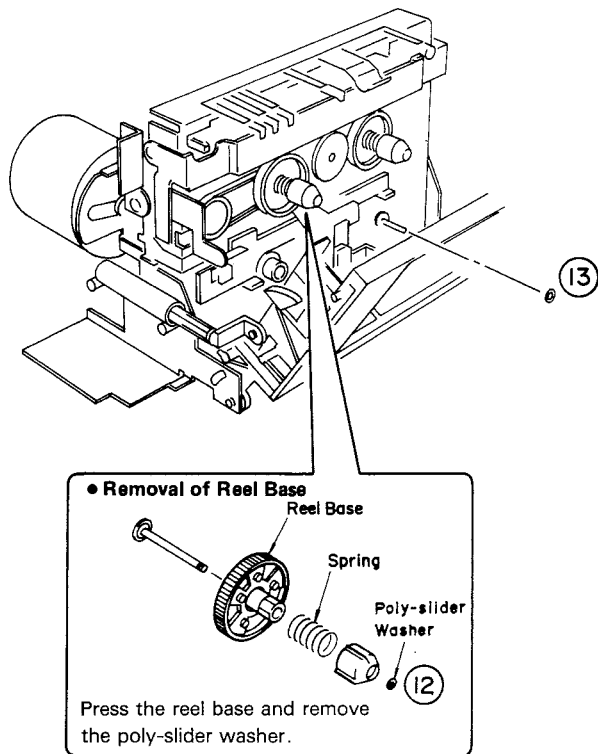

Fig. 9
- Remove the washer (12), then remove the reel base as shown in Fig. 9.
- Remove the poly-slider washer (13) in Fig.9 and remove the flywheel.